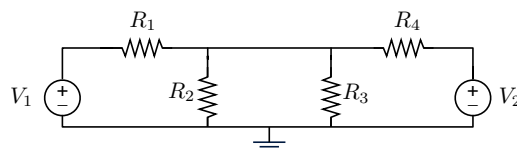

Figure 1: Circuit for Question A.3.a).
A.3.a) Consider the network in Fig. 1, where $R_1 = R_2 = R_3 = R_4 = 10\Omega$, $V_1 = 5V$ and $V_2 = 2V$. Determine the current passing through R_2 (magnitude and direction). (4 pt)